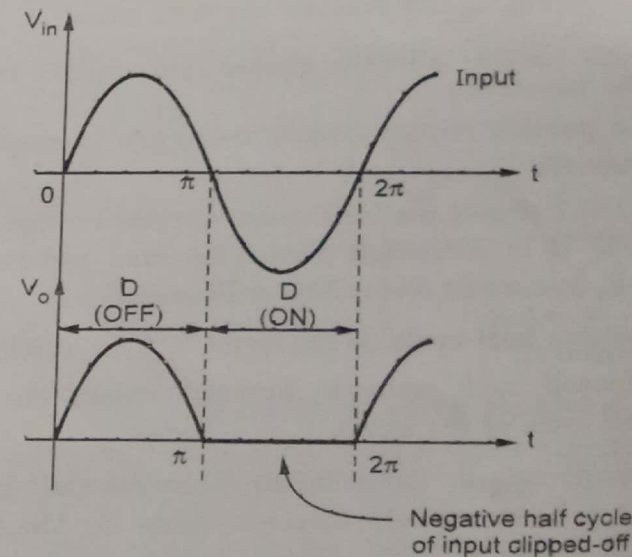

Fig. Q.44.3 Waveforms for parallel negative clipper
- The overall input and output waveforms are as shown in the Fig. Q.44.3.